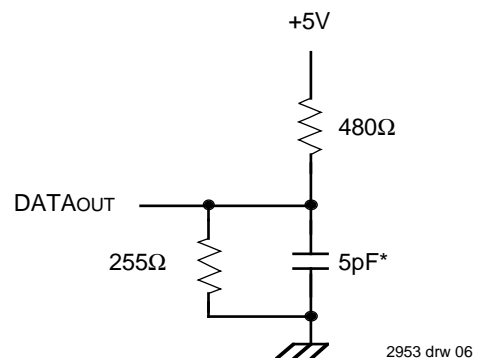

Figure 3. AC Test Load
- This parameter guaranteed with AC load (Figure 3) by device characterization, but is not production tested.